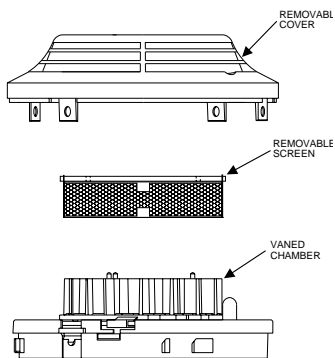

Figure 2. A78-2456-01
3. Remove the screen assembly by pulling it straight out (see Figure 2). Vacuum the inside.